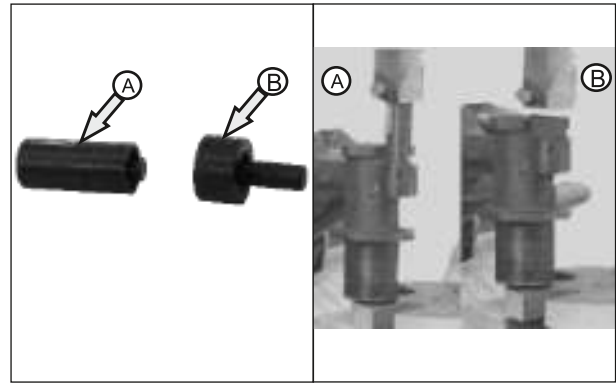

Fig. 1.23
- Keep the tool A on front trailing arm assembly and apply the load by using fly press to take out the silent block. Keep the Silent block , tool B on front fork trailing arm assembly and apply the load by using fly press to assemble the silent block.(Fig. 1.23)